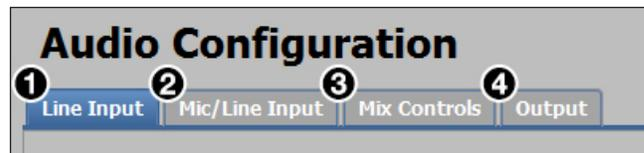

Figure 64. Audio Configuration Tabs
If desired, click the **Lock Aspect Ratio** checkbox (see figure 64, ①) to constrain proportions.
1. Click and drag the drag points of the sample image (②) to resize the image within the designated space (defined by the black area in figure 64).
2. Click anywhere inside the sample image (see the blue rectangle with a circle inside in figure 64) and drag it anywhere within the designated space to reposition the image.